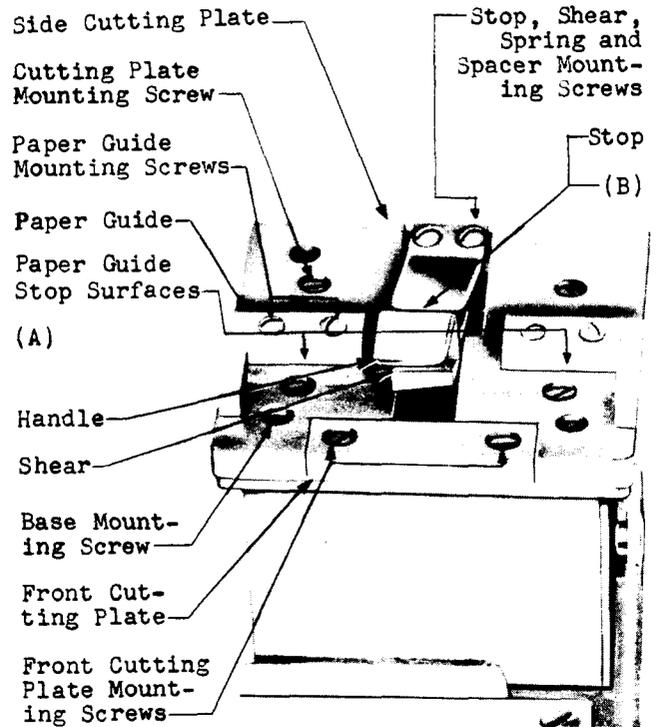

Fig. 5 - Splice Window Cutter (Nos. 604B, 604C, and 604E Splicers) (No. 604B Splicer Illustrated)
2.09 Alignment of Paper Guide Stop Surfaces: Fig. 5(A) - The paper guide stop surfaces shall be in alignment with each other.
2.10 Position of Shear: Fig. 5(B) - In the normal position of the splice window cutter, the shear shall be held firmly against the stop.